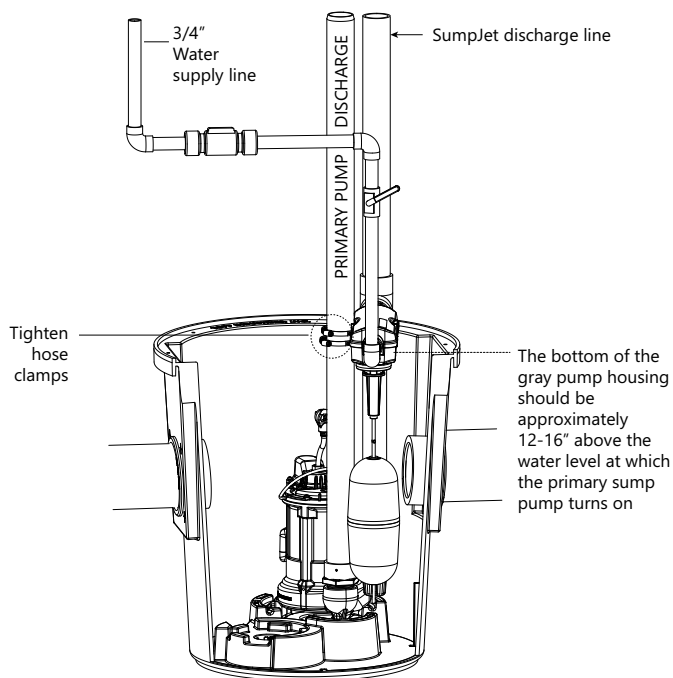

Figure 2. SumpJet Placement
1. Using the provided hose clamps, mount the SumpJet to the existing discharge pipe. Place the unit so the float level will operate a few inches above the turn-on level of the primary sump pump. (Refer to Figure 2). Tighten the hose clamps on the discharge pipe.